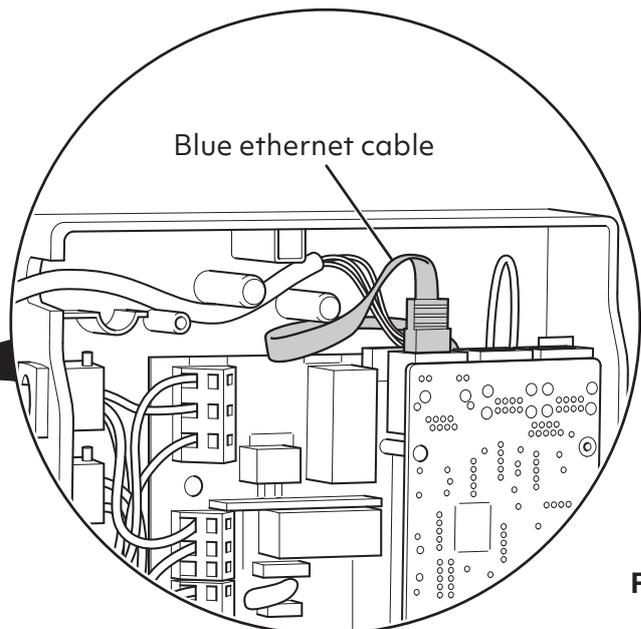

Fig. 18
1. Unscrew and remove the vessel controller's cover and then disconnect the blue ethernet cable (Fig. 18).